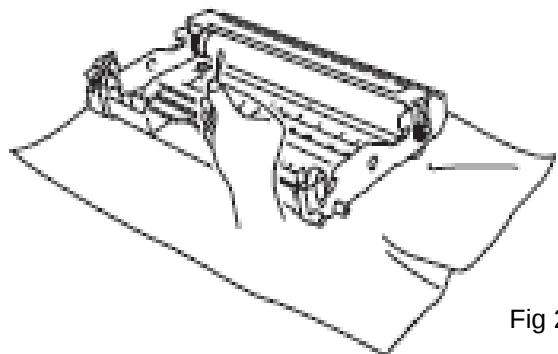

Fig 2
- Clean with a dry cotton swab or cloth until the drum is clean (*Fig 2*)